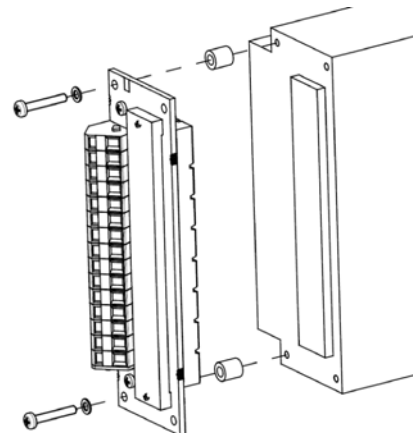

Fig. 28
- Cage clamp adapter HZZ00144-G; see fig. 28.